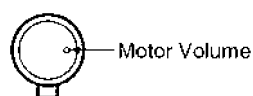

Figure 4
4. Adjust the motor screw so that the following output level is produced. (Figure 4)